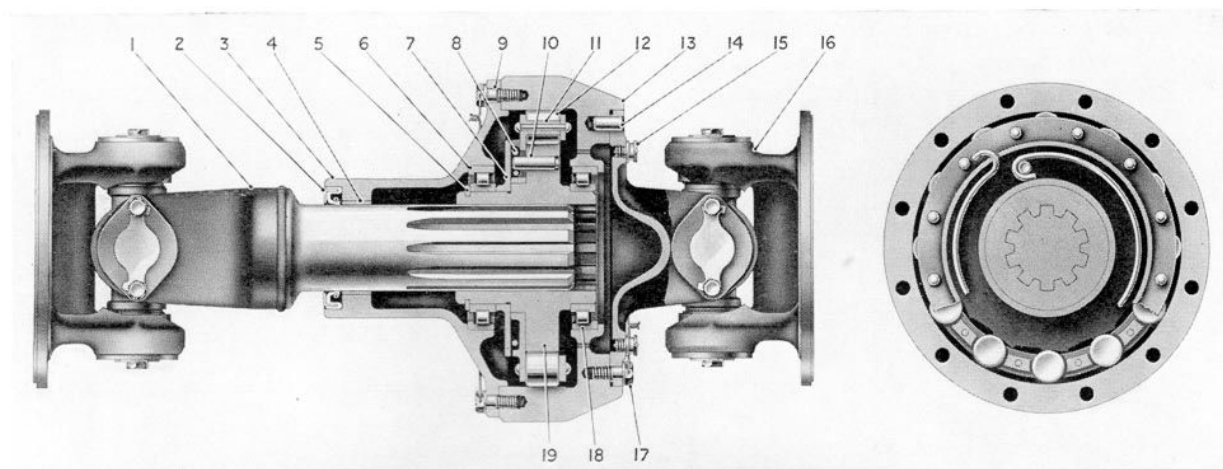

FIG. 1. FREEWHEEL UNIT
The propeller shaft immediately after the engine and torque converter in a railcar transmission layout usually incorporates a freewheel unit (Fig. 1). The propeller shaft has universal joints of the trunnion journal and needle-roller type. To allow for longitudinal float when running, the leading part of the propeller shaft is made up of a splined shaft integral with the universal joint, which engages in the splined cam (19) in the freewheel unit, to form a sliding coupling.
The freewheel (Fig. 1) is simply a one way clutch, and is of the cam and roller type. This type of freewheel will transmit torque in one direction only, and therefore, the transmission parts behind the freewheel can overrun the parts in front of it. Thus the engine can be allowed to idle by closing the throttle, without having to disengage the gears.
Freewheel—Fig. 1.